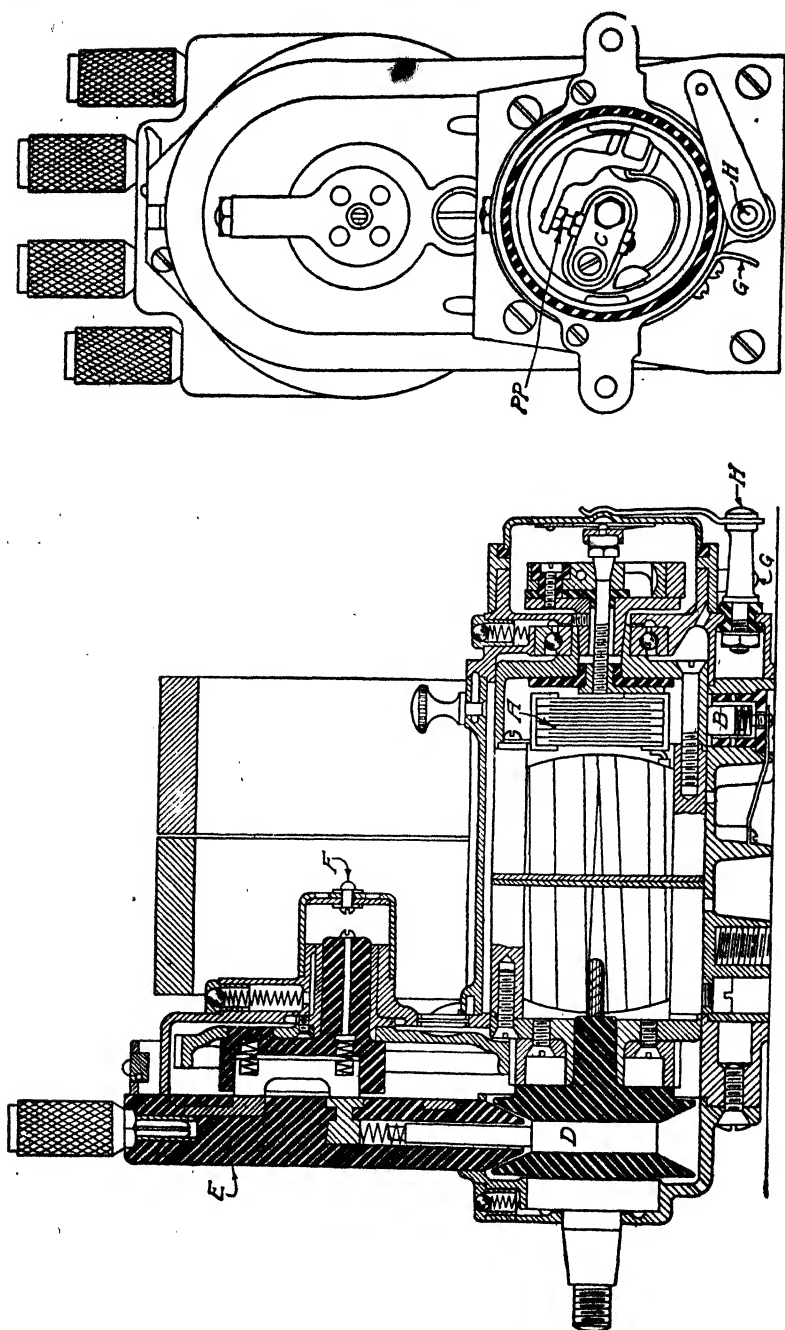

Fig. 64. Sectional and End Views Through High-Tension Magneto (Horseless Age)
*Description of True High-Tension Type.* A sectional view of a true high-tension magneto is shown in Fig. 64. In this the primary and the secondary windings on the shuttle armature are entirely separate to insure better insulation. These windings are not shown in section in the illustration, the usual insulating tape winding being indicated on the armature. Twice during every revolution of the armature, the primary circuit is opened at the platinum points *PP* of the circuit breaker, the interruption occurring substantially at the moment when the primary current is at its maximum. From the primary winding, the current is conducted to the stationary member of the contact breaker *C* through the terminal *B*. *A* is the condenser. One terminal of the secondary winding is connected to the end of the primary winding, as in a coil, and the other connects with the high-tension collector ring *D*, from which it is conducted through a carbon
can bridge in normally dry air. A safety gap of this kind is shown at *F* in Fig. 64. In the type of magneto just described above it is embodied in the coil. When an opening at any point in the high-tension circuit exceeds the length of this gap, the current takes the path thus provided, thus preventing the imposition of an excessive strain upon the insulation of the secondary windings.